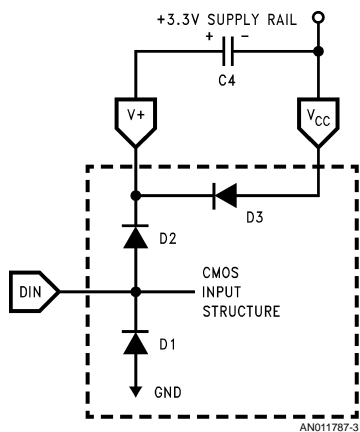

FIGURE 3. Input Protection Circuitry
Let us first examine the input structures of the D_{IN} and SD input pins, as these structures are very similar. The common circuitry is illustrated in Figure 3 and is composed of two input protection diodes (D1 and D2). In addition, a third diode (D3) exists between the V_{CC} and $V+$ pins and is normally reversed biased. Diode D1 is situated between the input (D_{IN} or SD) pin and GND to clamp negative input voltages. Diode D2 is situated between the input pin and the $V+$ pin. When the DS14C335 is active (ON), the $V+$ pin is typically greater than $+9V$. External charge pump capacitor C4, holds 6V of charge, and is referenced to the V_{CC} (+3.3V) pin. This creates a potential of greater than $+9V$ on the $V+$ pin, and is used to power the driver outputs. The input pins (D_{IN} and SD) present standard input current loading to the driving device (UART) since D1 and D2 remain reversed biased between $-0.3V$ and one diode above the $V+$ pin potential (typically greater than $+9V$).